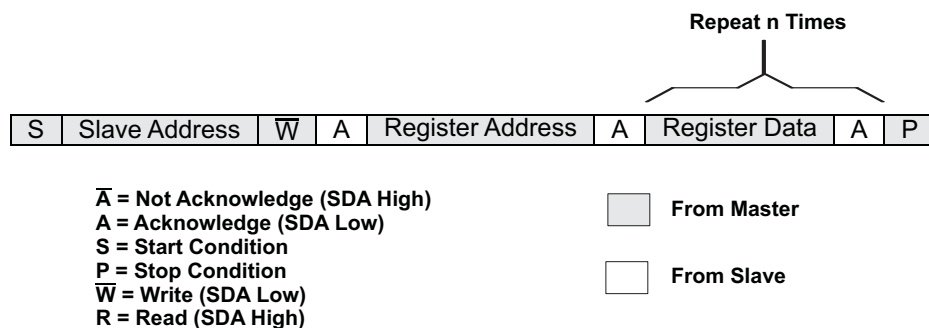
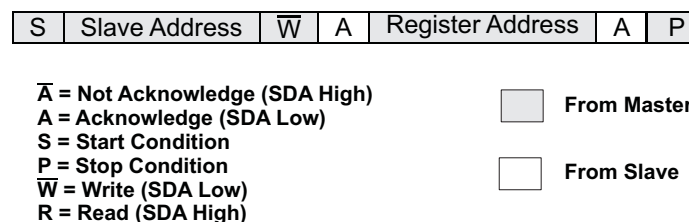
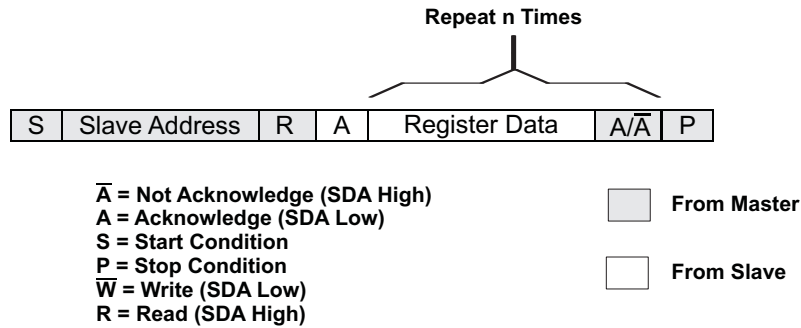
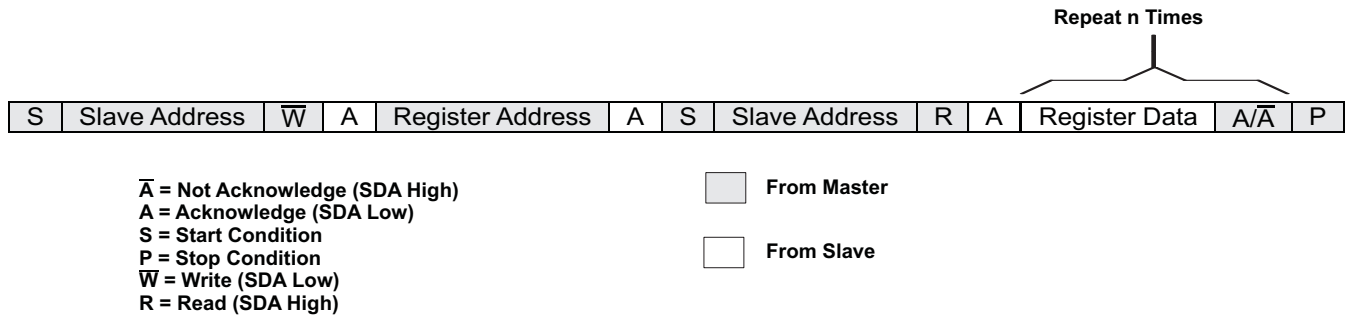

Figure 21. I²C Write Cycle with Register Address and Data
Figure 22. I²C Write Cycle with Register Address Only
Figure 23. I²C Read Cycle
Figure 24. I²C Combined Format Write/Read Cycle
During a write cycle, the slave sends an acknowledge (A) after every byte that follows the device address. The first byte following the device address is the register address, which maps to the register addresses specific to the device. The second byte following the device address is the data byte to be written at the register address (see Figure 21). If only the register address is to be written for a subsequent read sequence, the data byte is omitted and the sequence ends with a Stop (see Figure 22) or a repeated Start after the register address byte (see Figure 24). If multiple data bytes are to be written at subsequent register addresses, the master may continue to send data bytes after each slave acknowledge, and the slave device automatically increments the register address. Note that the master must not drive the SDA signal line during the slave acknowledge since the slave is in control of the SDA bus and may be holding it low.
During a read cycle, the slave acknowledges the initial address byte if it decodes the device address as its own device address. Following this initial acknowledge by the slave, the master device becomes a receiver and acknowledges data bytes sent by the slave. The first byte received by the master is the data stored at the register address, while subsequent bytes are data stored at incrementing register addresses. When the master has received all of the requested data bytes from the slave, the not acknowledge (A) condition is initiated by the master by keeping the SDA signal high just before it asserts the Stop (P) condition. This sequence terminates a read cycle as shown in Figure 23. A combined format is when the read cycle is preceded by a write cycle for setting the register address, and is shown in Figure 24.